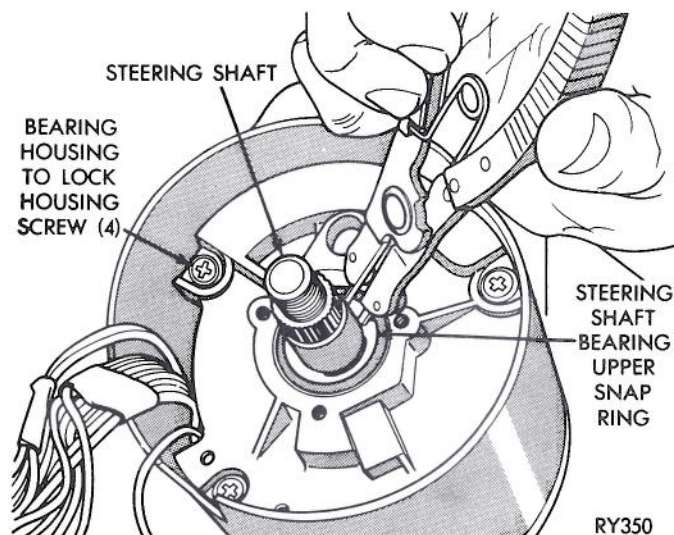

Fig. 8—Upper Snap Ring
(1) Remove four screws which hold bearing housing to lock housing (Fig. 8).
(2) Remove snap ring from upper end of steering shaft (Fig. 8).